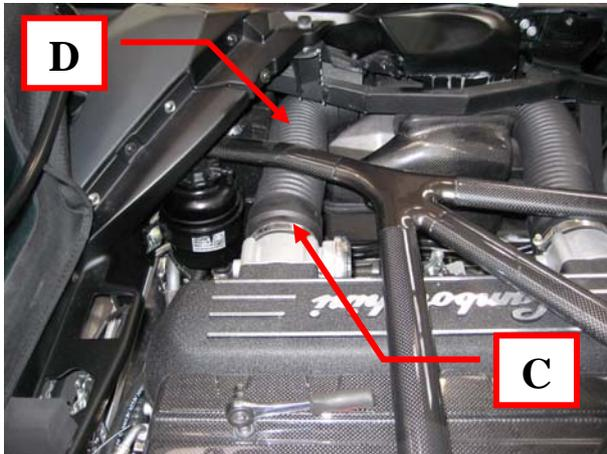

Fig. 4
- Loosen the clamp (C-Fig. 4) and remove the right front hose (D-Fig. 4) from the throttle body.